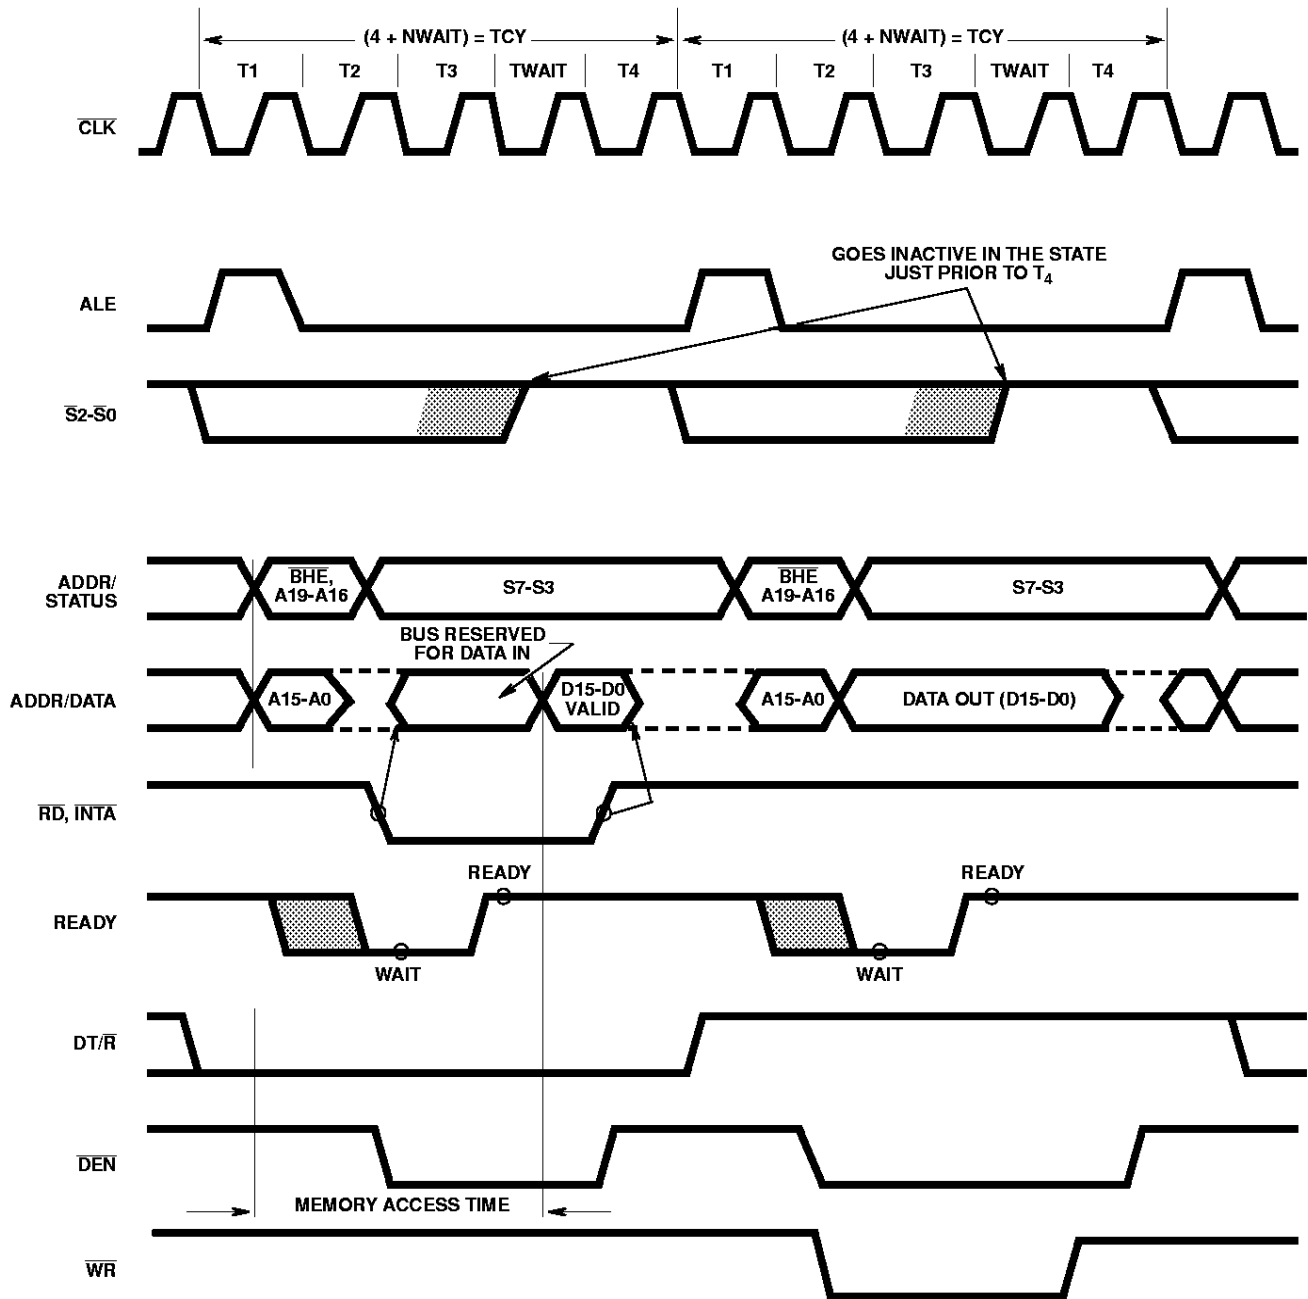
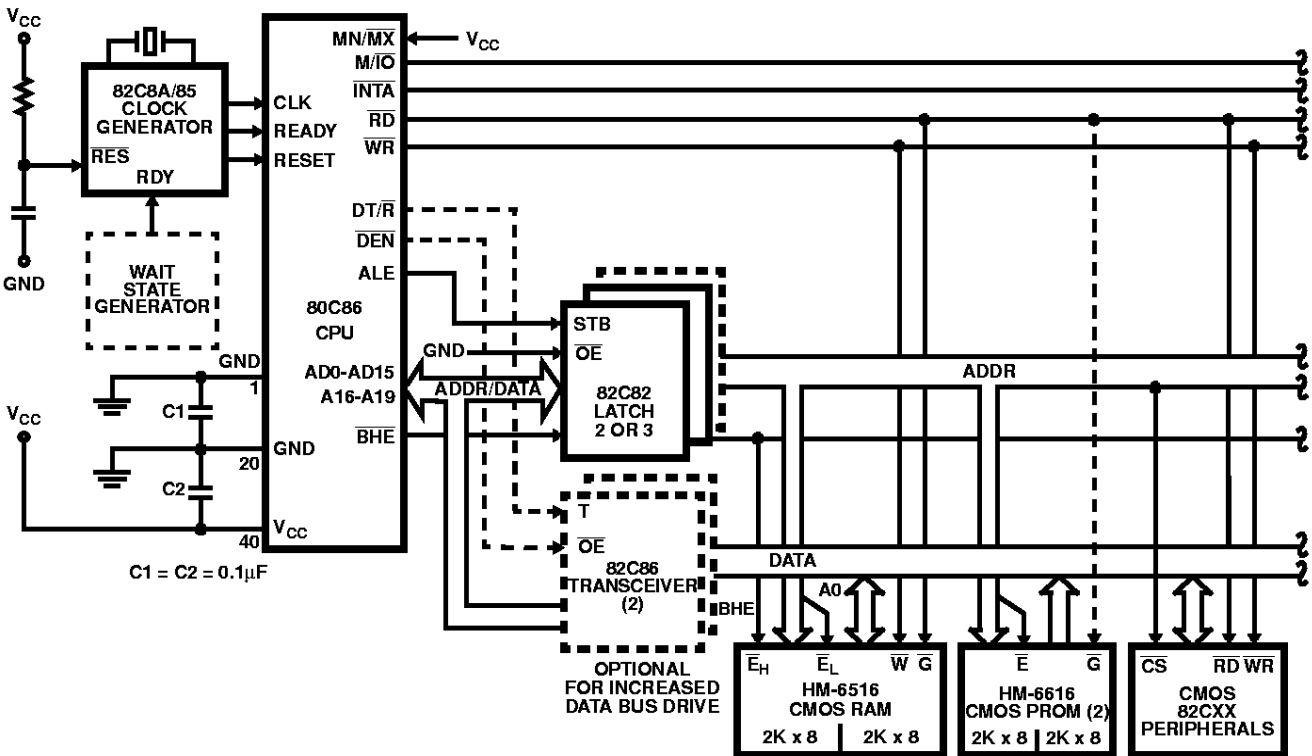

FIGURE 3. BASIC SYSTEM TIMING
FIGURE 6A. MINIMUM MODE 80C86 TYPICAL CONFIGURATION
The demultiplexed mode requires two 82C82 latches (for 64K addressability) or three 82C82 latches (for a full megabyte of addressing). An 82C86 or 82C87 transceiver can also be used if data bus buffering is required. (See Figure 6A.) The
Each processor bus cycle consists of at least four CLK cycles. These are referred to as T1, T2, T3 and T4 (see Figure 3). The address is emitted from the processor during T1 and data transfer occurs on the bus during T3 and T4. T2 is used primarily for changing the direction of the bus during read operations. In the event that a "NOT READY" indication is given by the addressed device, "Wait" states (TW) are inserted between T3 and T4. Each inserted wait state is the same duration as a CLK cycle. Periods can occur between 80C86 driven bus cycles. These are referred to as idle" states (T_i) or inactive CLK cycles. The processor uses these cycles for internal housekeeping and processing.
Typical system configurations for the processor operating in minimum mode and in maximum mode are shown in Figures 6A and 6B, respectively. In minimum mode, the MN/ $\overline{\text{MX}}$ pin is strapped to VCC and the processor emits bus control signals (e.g. RD, WR, etc.) directly. In maximum mode, the MN/ $\overline{\text{MX}}$ pin is strapped to GND and the processor emits coded status information which the 82C88 bus controller uses to generate MULTIBUS compatible bus control signals. Figure 3 shows the signal timing relationships.